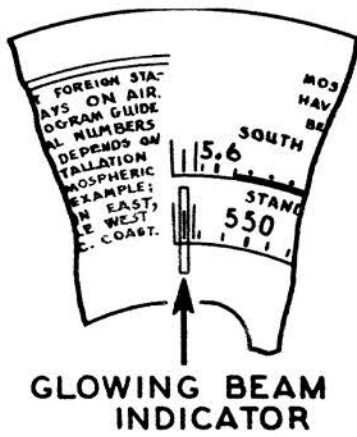

Fig. 7. Dial Calibration Model 5
2. Holding the tuning condenser in this position, loosen the dial clamp; then turn the dial until the indicator is centered on the middle index line (See Fig. 7). Tighten clamp in this position.